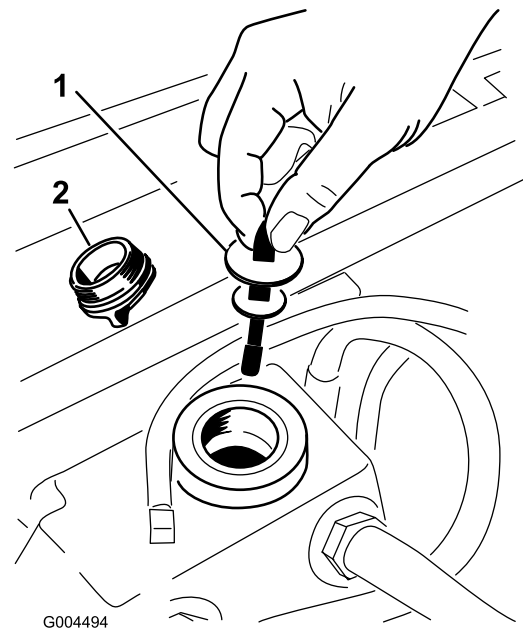

Figure 68
3. Remove the hydraulic fill cap (Figure 68) from filler neck.
4. Remove the dipstick and wipe it with a clean rag (Figure 68).
5. Place the dipstick into the filler neck; then remove it and check level of fluid (Figure 68).